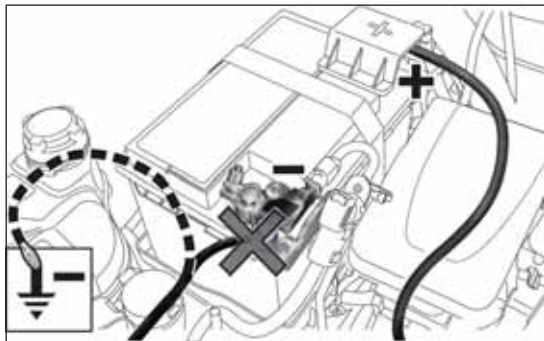

fig. 112
- ☐ connect the positive terminals (+ sign near the terminal) of the two batteries with a jump lead fig. 112;